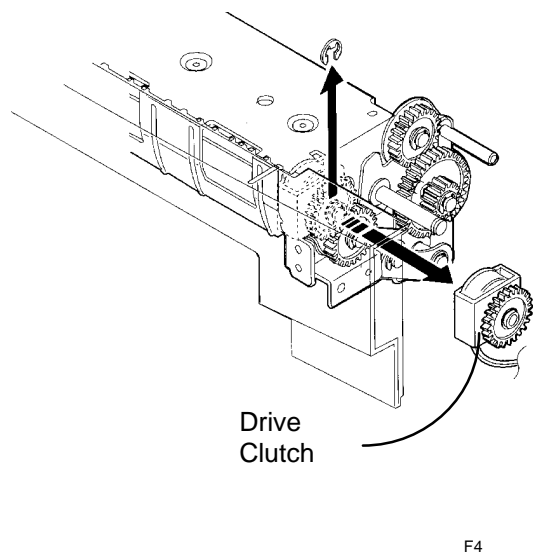

Figure 1. Removing the Tray 2 Drive Clutch
3. (Figure 1): Remove the Tray 2 Drive Clutch.